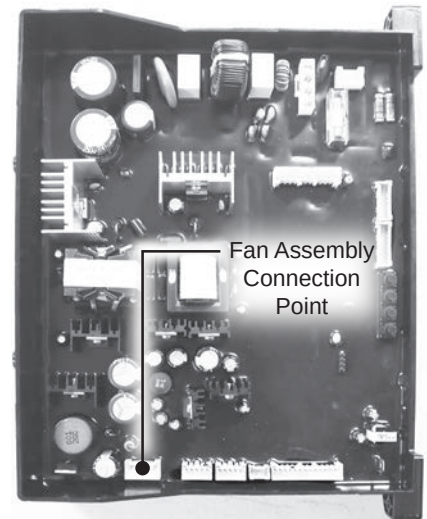

Figure 101 - Disconnecting fan assembly from PCB
- 20** Using Figure 101 as reference, disconnect the fan assembly wiring harness from PCB.
31 Guide fan assembly wiring harness behind gas valve. Using Figure 101 as reference, connect fan assembly wiring harness to PCB.